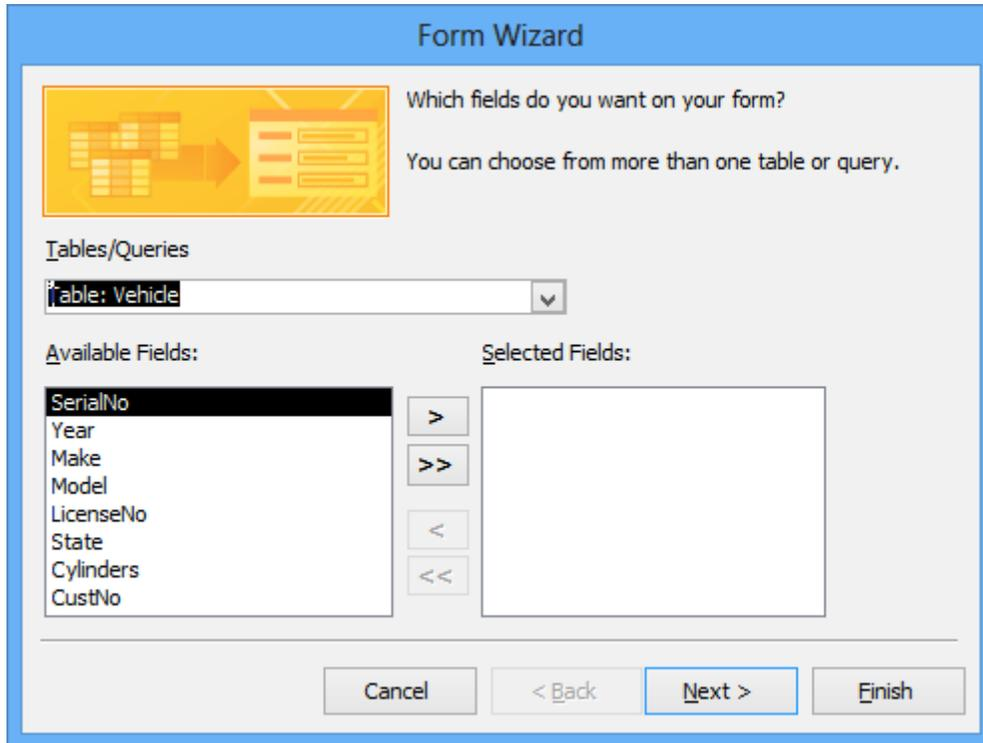
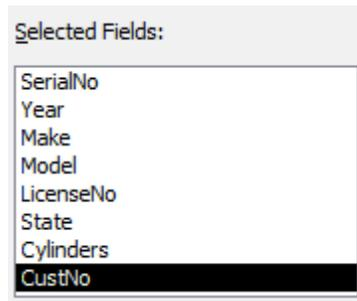

Figure 4: Wizard Window for Choosing Fields
Figure 5: Selected Fields for the New Form
10. Select Fields to Include: Click the >> button to move all of the fields shown in Figure 4 to the right. Selected fields will appear as in Figure 5. Click the **Next** button when finished.